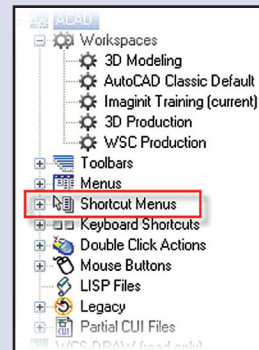

Figure 8
- Find the Shortcut menus category. *See Figure 8*